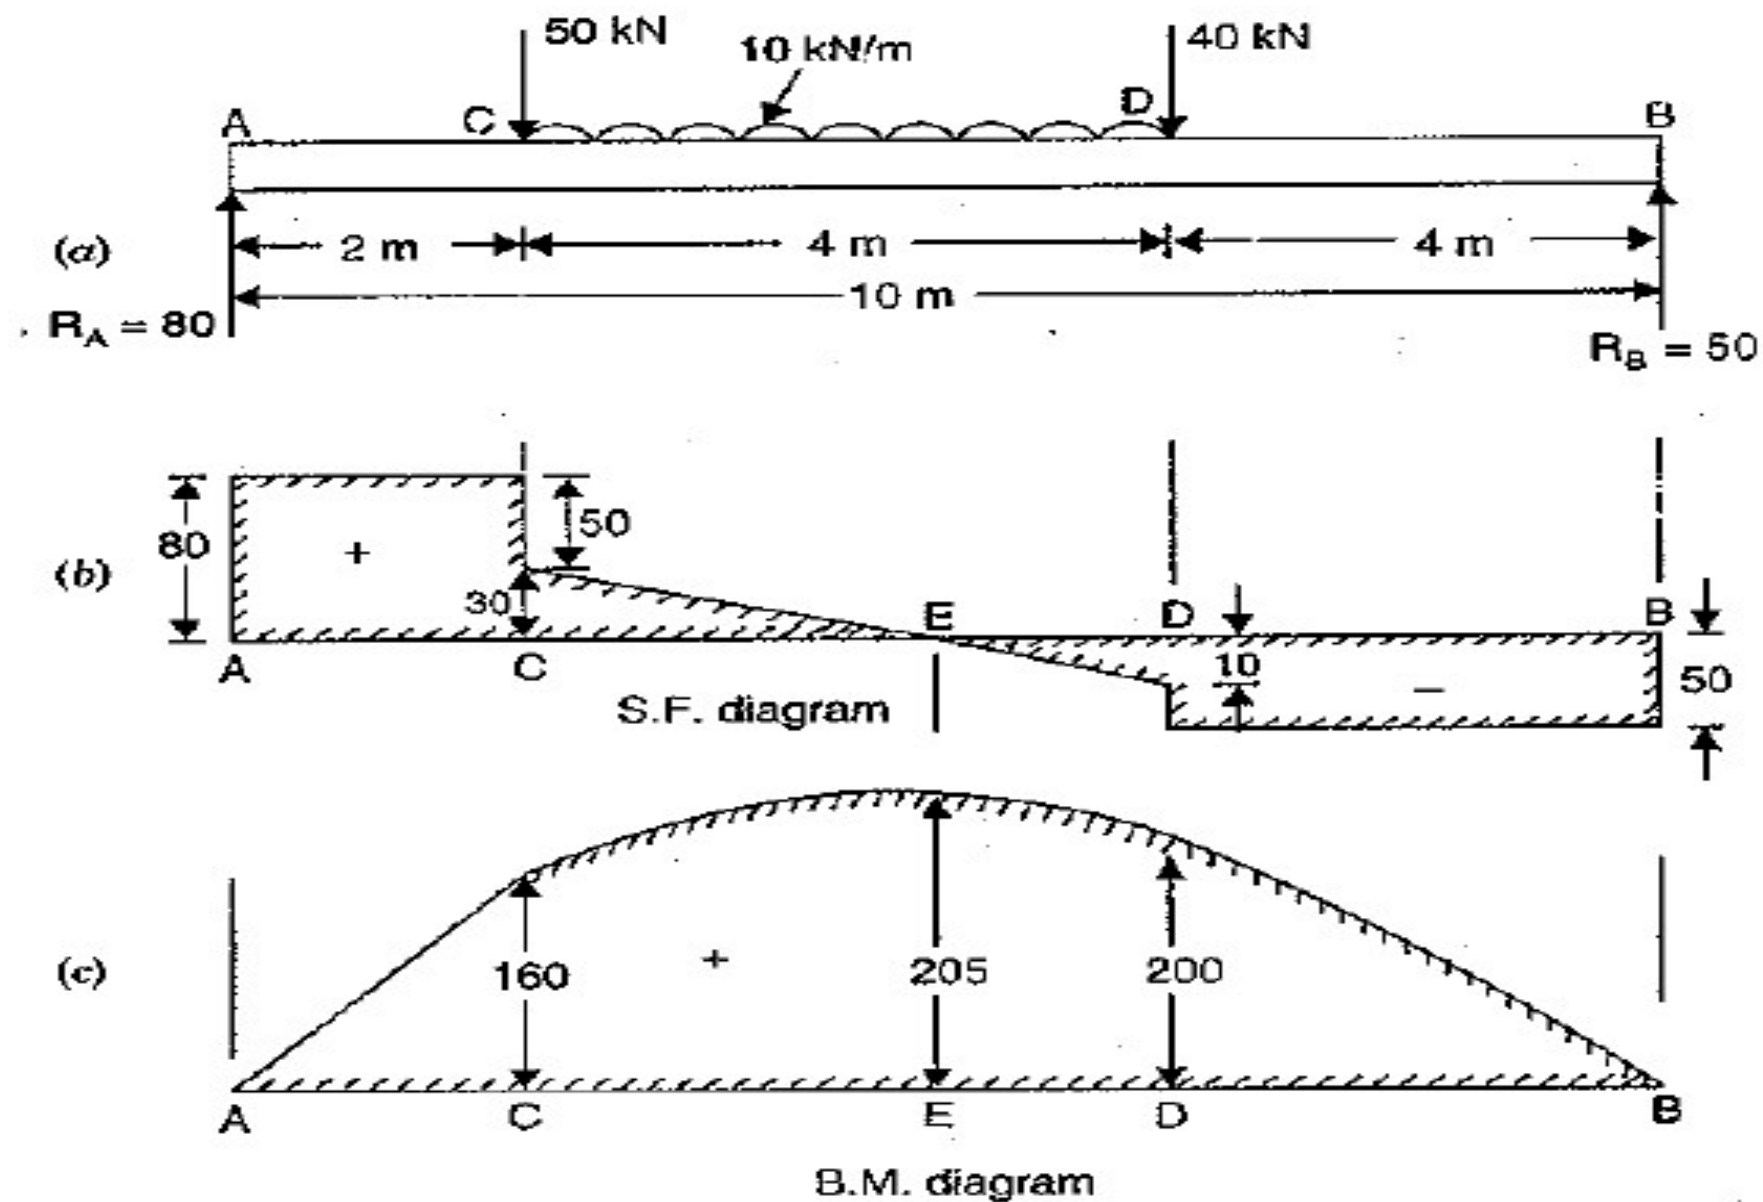

Fig. 6.31
**Problem 6.12.** A simply supported beam of length 10 m, carries the uniformly distributed load and two point loads as shown in Fig. 6.31. Draw the S.F. and B.M. diagram for the beam. Also calculate the maximum bending moment.
The shear force diagram is drawn as shown in Fig. 6.31 (b).
The B.M. between *C* and *D* varies according to parabolic law reaching a maximum value at *E*. The B.M. between *A* and *C* and also between *B* and *D* varies according to linear law. The B.M. diagram is shown in Fig. 6.31 (c).